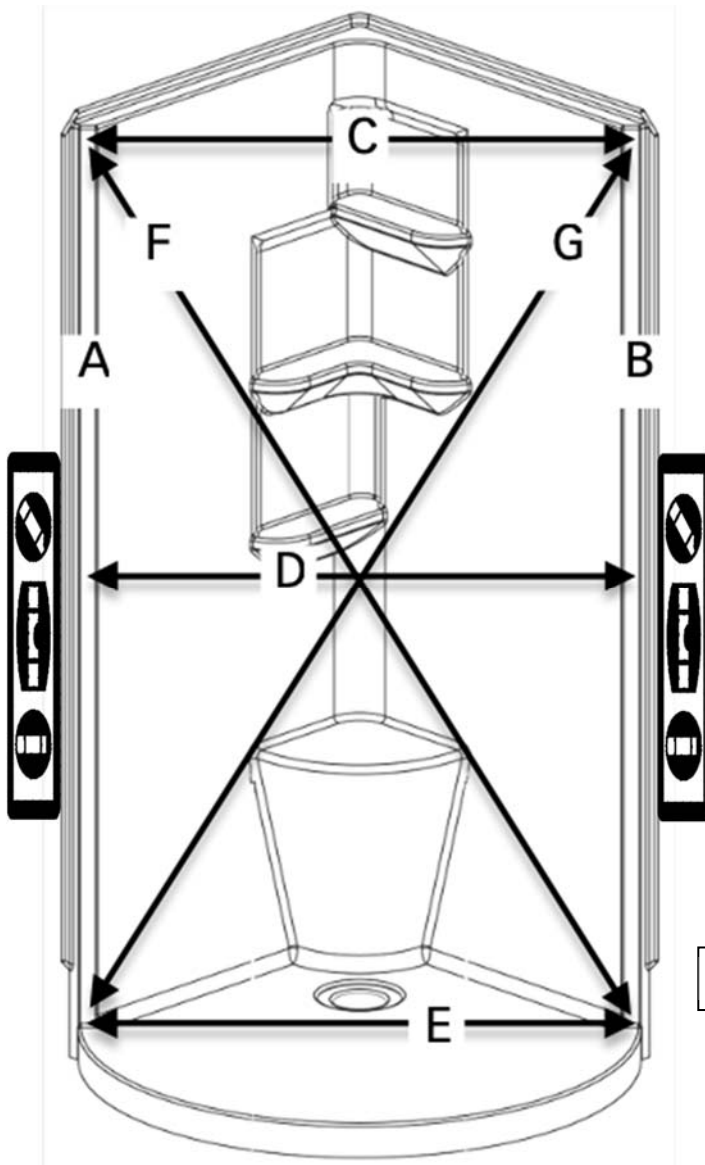

Figure 6
12. Using a 4' level, install the shower on vertical surfaces A and B, as shown on Figure 6. When the shower is perfectly leveled, secure it on the previously installed two-by-fours, using screws and washers. Always secure the shower through pre-drilled holes; installing screws directly into the acrylic can cause the acrylic to crack.